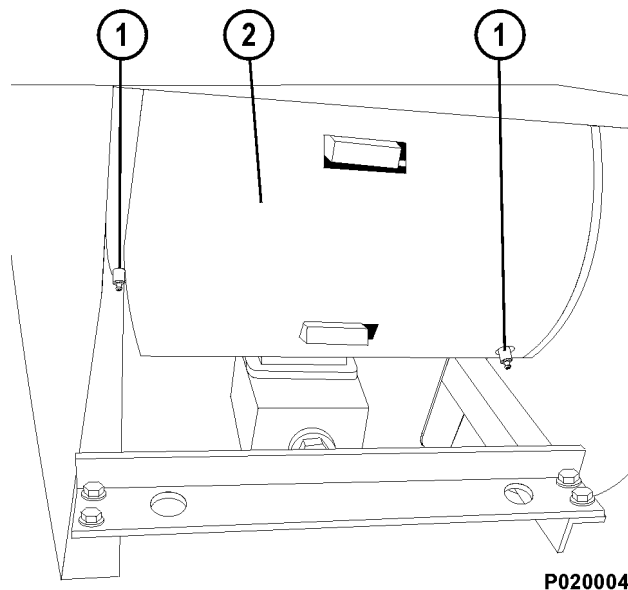

FIGURE 4-1. AUXILIARY BLOWER
6. **AUXILIARY BLOWER** - Apply a few pumps of grease to blower bearings. There are two grease zerks (1, Figure 4-1) located on auxiliary blower (2).